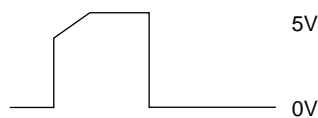

Figure B-5
• Yes Is a RST signal in Q3 is as specified in Figure B-5?